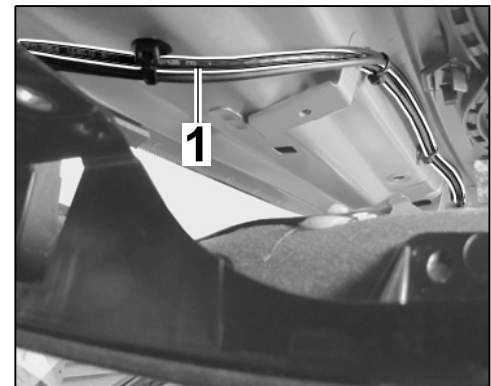

Figure 8
2.7.2 Route GPS antenna line along the standard wire harness for the roof and secure with a tie-wrap (⇒ *Figure 8*).